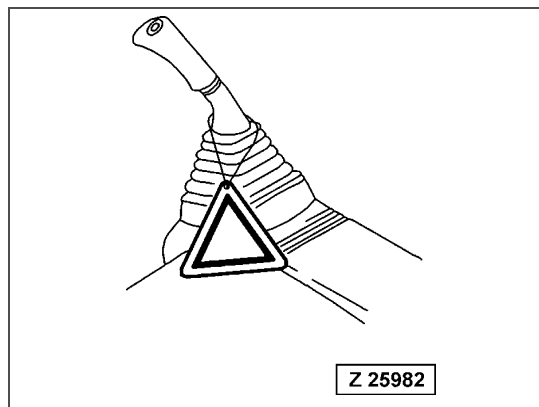

Fig. 2-19
- If there is a "DANGER DO NOT OPERATE!" warning tag displayed, it means that someone is carrying out inspection and maintenance on the excavator (Fig. 2-19). If the warning sign is ignored and the excavator is operated, there is a danger that the person carrying out the inspection or maintenance may be caught in the rotating parts or moving parts and suffer personal injury or death. Do not start the motor or touch the levers.